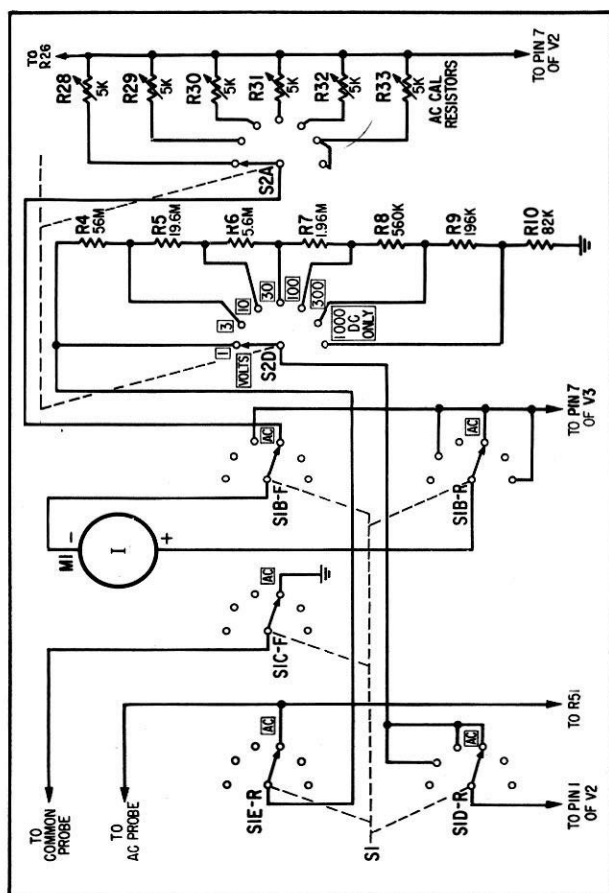

Figure 4-4. AC Voltmeter Circuit, Schematic Diagram
c. AC VOLTMETER CIRCUIT (see figure 4-4). - Diode V1, located in the AC probe, together with charging capacitor C2, acts as a peak detector. The dc output of the detector is filtered by capacitor C1 before being applied to the voltage attenuator network. The attenuated voltage is applied to the bridge and measured in the same manner as dc voltages.
(1) The slight negative contact potential developed by diode V1 is cancelled by application of a small positive voltage supplied by a divider network consisting of R47 and R35B. The positive potential is adjusted to a suitable value by means of the ZERO ADJ. control on the front panel.